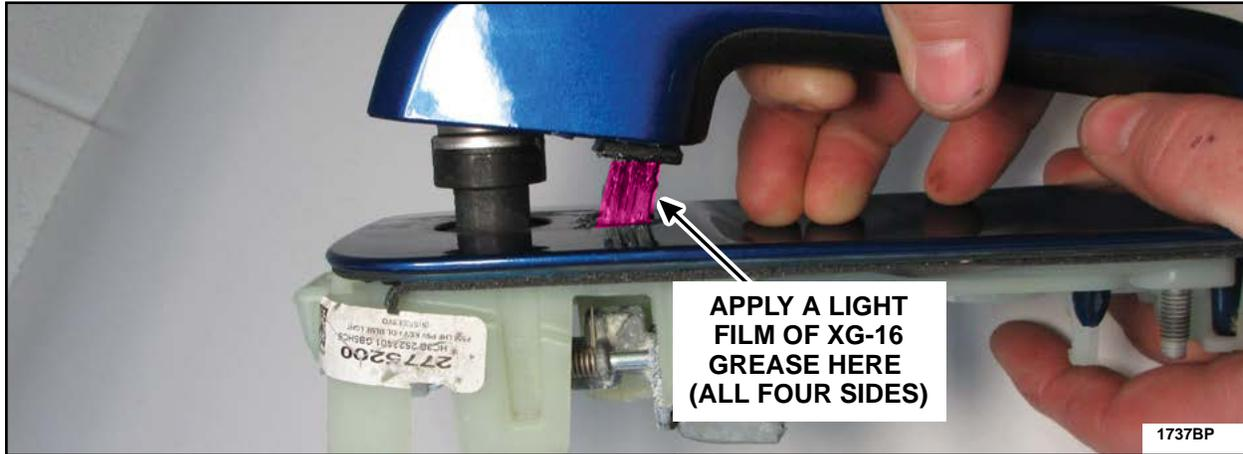

FIGURE 48
19. Using a clean shop cloth and isopropyl alcohol, clean the handle plunger then using a brush apply a light film of Motorcraft® XG-16 low temperature grease to all four sides of the exterior door handle plunger and to the mechanisms in the areas shown in Figures 48 and 49.